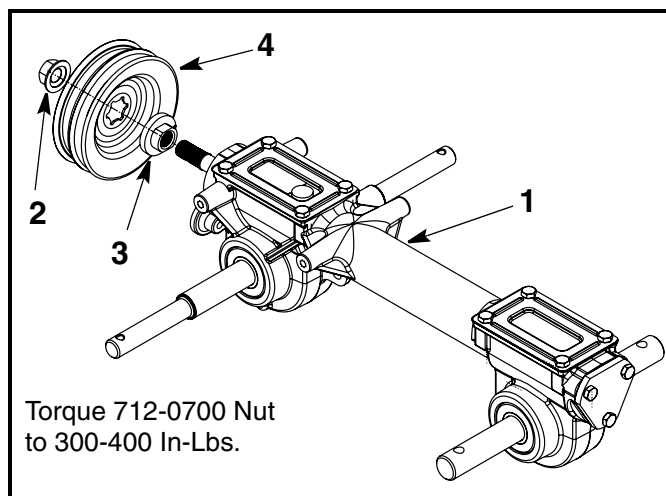

FIGURE 1
(See Figure 1)
26. The new Transmission Pulley, Item 4, Pulley Hub, Item 3, and Flange Nut, Item 2, must be installed onto the new Transmission, Item 1. See Figure 1.